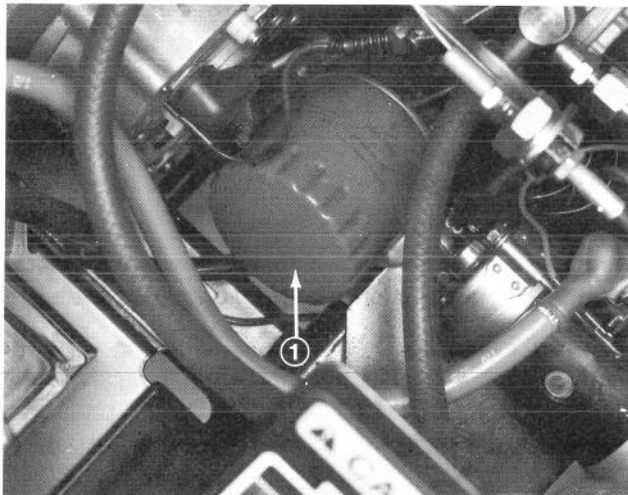

Figure 40
2. Remove oil filter (Fig. 40). Apply a light coat of clean oil to the new filter seal before screwing it on. DO NOT OVER-TIGHTEN.